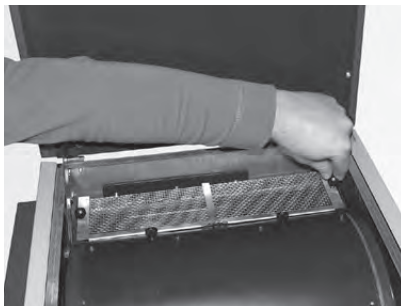
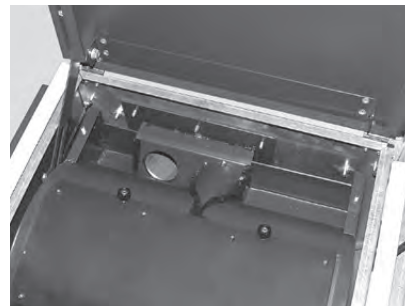

Fig. 145 Removing the knurled screws
Fig. 146 Removing the coarse filter, removing pellets and dust
- Remove both knurled screws at the back from the coarse filter (Fig. 145) and remove the coarse filter (Fig. 146).